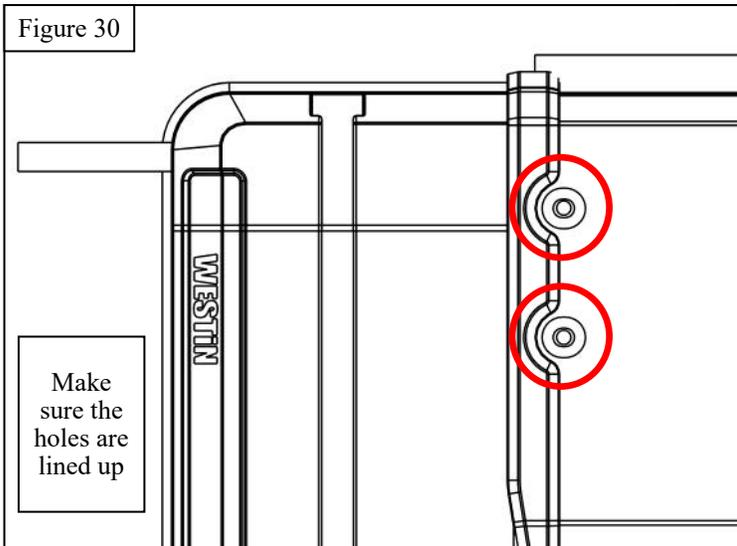

Figure 30
17. Install the canister cover plate (**Item 2**), place the canister cover plate on top of the canister and make sure the mount holes line up with the mount points on the canister. Place one plastic ring (**Item 35**) into each hole on the canister cover plate, then use 4 M5 Countersunk bolts (**Item 33**) to attach the canister cover plate to the canister. Finally use the Plastic Caps (**Item 34**) to cover the hardware. Use **Figures 30 and 31** as reference.